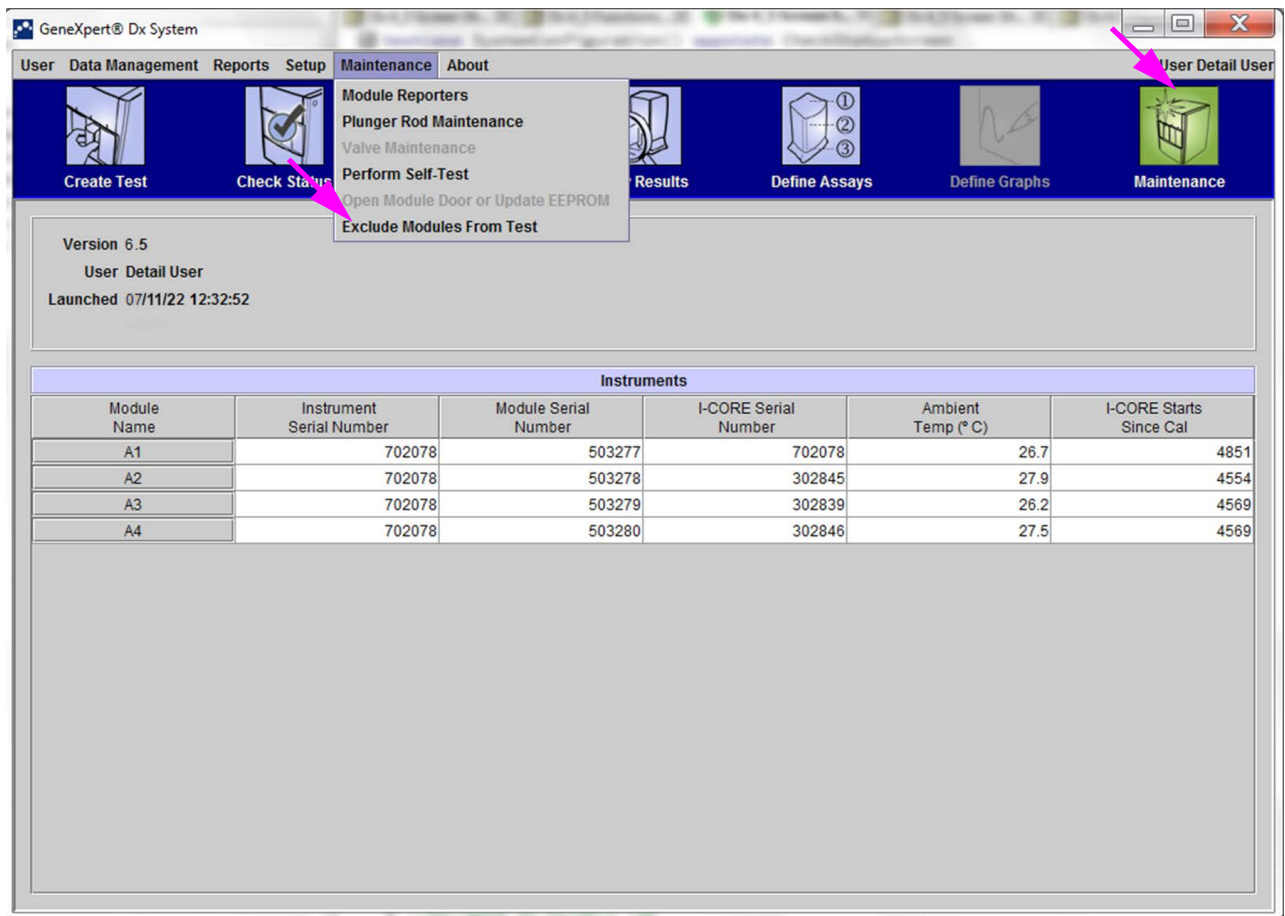

Figure 9-36. GeneXpert Dx System Window
2. In the GeneXpert Dx System window, click the **Maintenance** icon. The Maintenance screen appears. See Figure 9-36.
1. In the GeneXpert Dx System window, click the **Maintenance** icon. The Maintenance screen appears. See Figure 9-36.